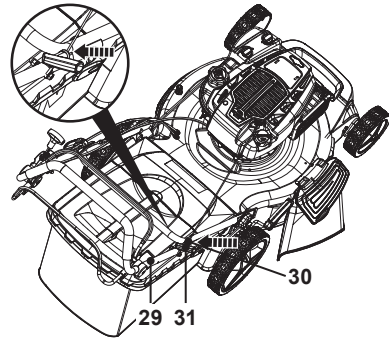

Fig. 14
3. Always rest the recoil starter handle (31) onto the hook (30) located on the right-hand side of the upper handle bar (29) (Fig. 14) when the recoil starter is not operated.